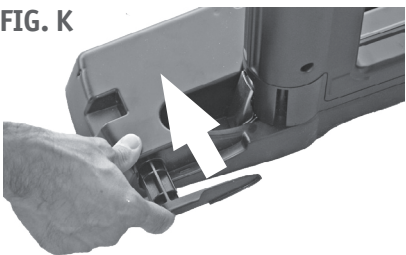
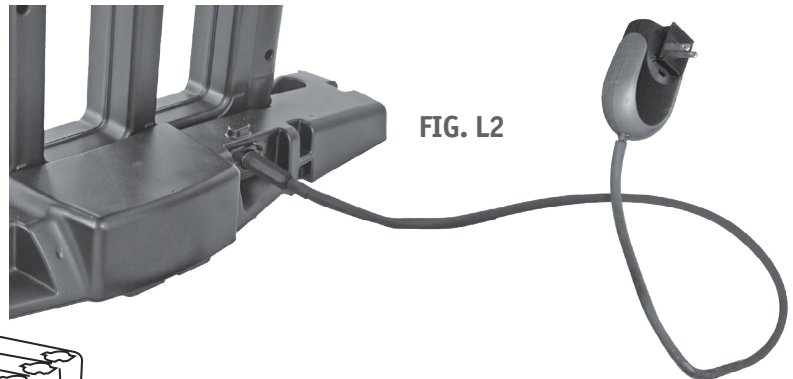

FIG. L2
FIG. L3
- STEP 11** Push the outriggers back into the bases. **FIG. K - ASSEMBLY IS COMPLETE.** Connect the appropriate AC adaptor to the power supply. Snap in to secure fit; the other adaptors are not used. **FIG. L1** - While the M-Scope is fully assembled, the power supply may be connected to either of the two bases. There are two batteries, one in each base. There is only one power supply; connect it to either base. The single power supply will charge both bases, regardless of whether the M-Scope is powered on or off, as long as the M-Scope is fully assembled **FIG. L2**. - If the M-Scope is disassembled, and you wish to charge both batteries simultaneously, use the Y-Cable supplied. **FIG. L3**